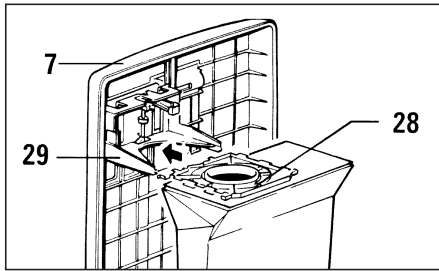

Figure 7
Changing the Dust Bag - Figure 7
2. Bag not inserted properly.	2. Re-insert bag with cover release flap (5) up, until firmly latched in bag holder (see pg.8, figure 7).